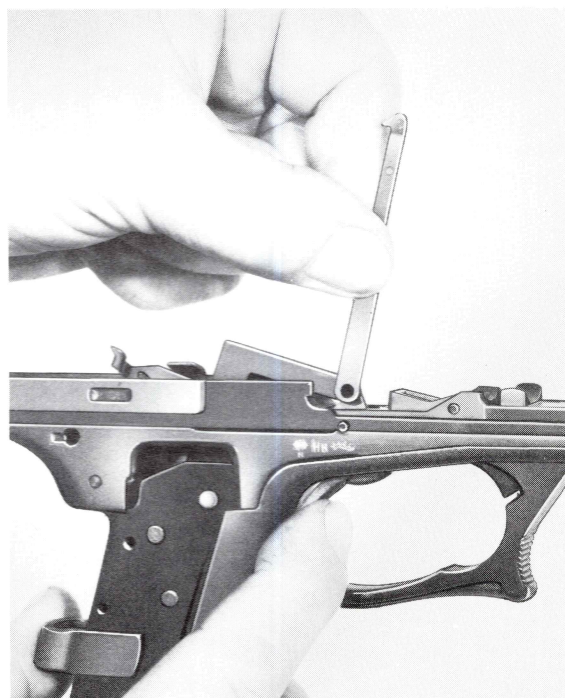

Fig. 41
- Pull the trigger fully back, swivel the pull bar into position in the receiver and follow it with the trigger bar (Fig. 41).